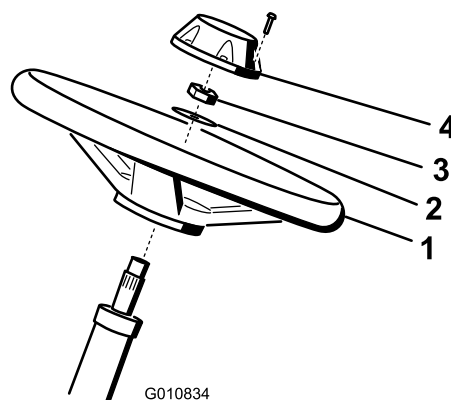

Figure 4
1. Slide the steering wheel onto the steering shaft (Figure 4).
2. Slide the washer onto the steering shaft (Figure 4).
3. Secure the steering wheel to the shaft with a jam nut and tighten it to 27 to 35 N-m (20 to 26 ft-lb) (Figure 4).
4. Install the cap to the steering wheel and secure it with a screw (Figure 4).